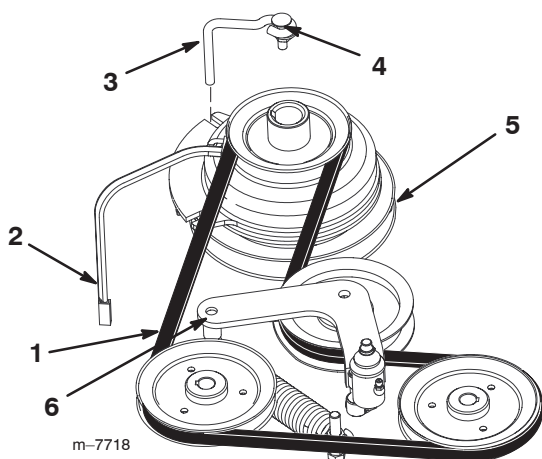

Figure 59
2. Remove the bolt from the clutch stop and unplug the clutch electrical wire (Fig. 59).
4. Remove the traction belt from the engine and the hydraulic pump pulleys (Fig. 59).
5. Install the new belt around the engine and the hydraulic pump pulleys (Fig. 59).
7. Release the pressure on the spring loaded idler (Fig. 59).